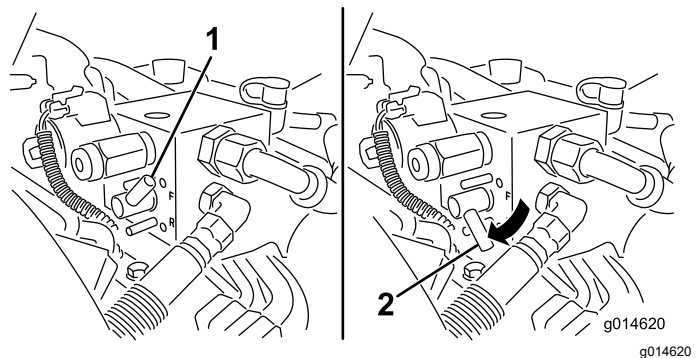

Figure 58
5. Rotate the backlap lever to the REVERSE (R) position (Figure 58).